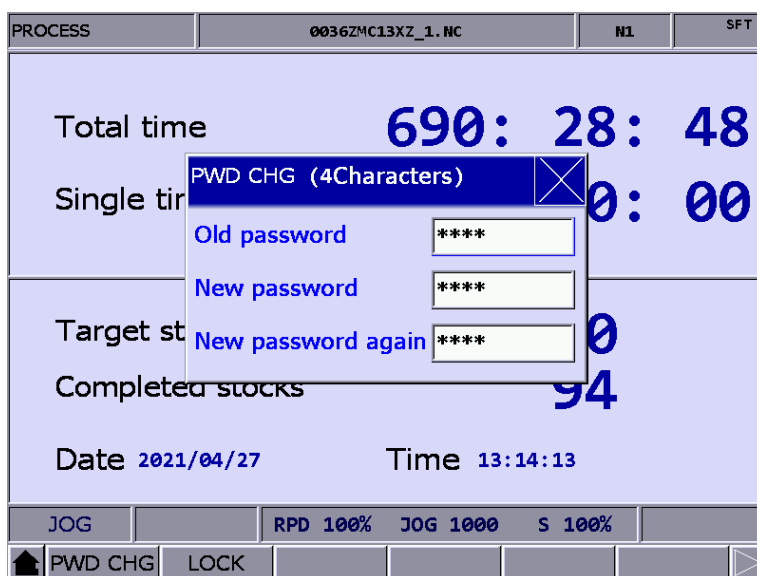

Figure 9.5.2.1
- (1) Press **DGN** to enter the DGN screen.
- (2) Press **PWD** to switch to the function bar of password setting.
- (3) Press **M SCP** to switch to the function bar of machine security.
- (4) Press **PWD CHG** and a dialog box appears as shown in Figure 9.5.2.1. Enter the old password, new password, and retype the new password for confirmation.
- (5) Press **ENTER** to complete changing the password.